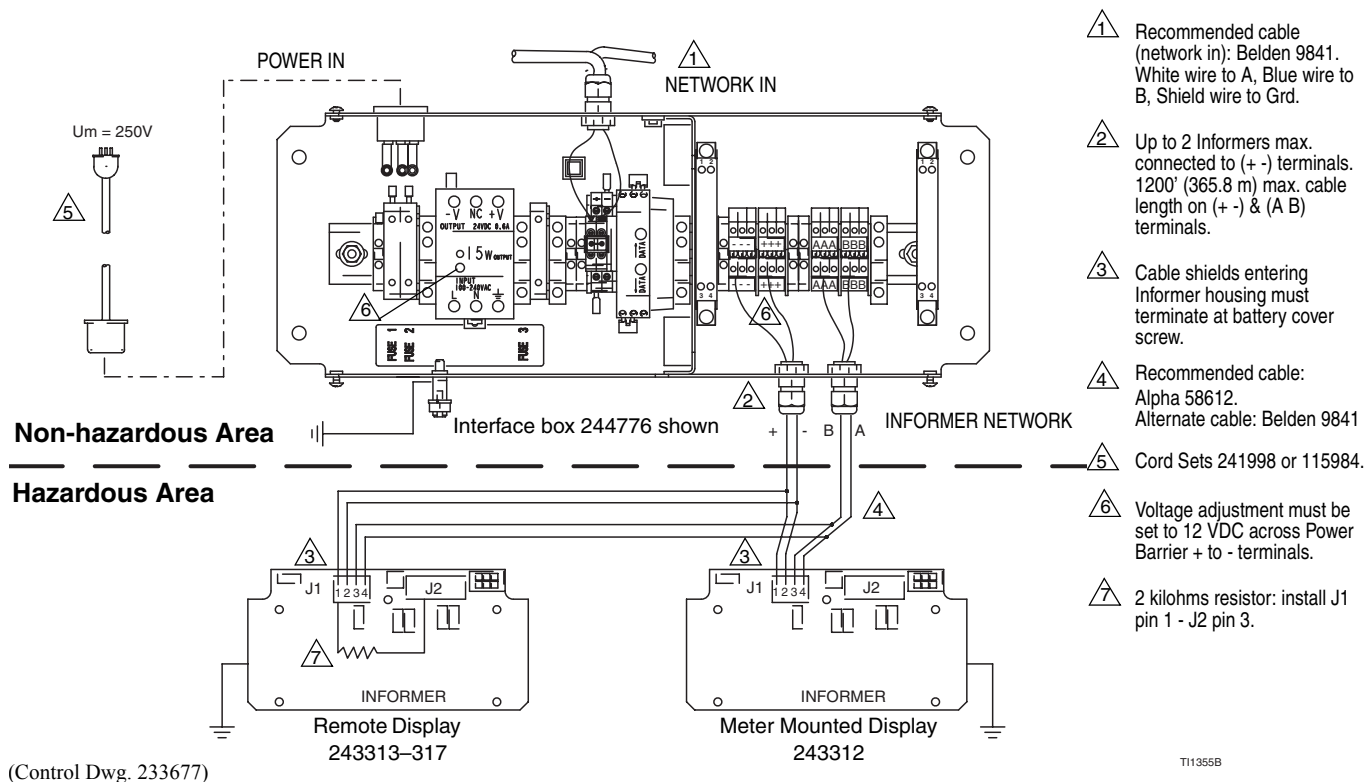

FIG. 1: Typical Informer Installation
- Refer to FIG. 1 for general power and communication wiring connections between the interface box and Informer stations.
The power and communication wiring for part no. 224773 and 224774 is the same as shown in FIG. 1 except the Informer stations, as well as the interface boxes, must be installed in a non-hazardous area.